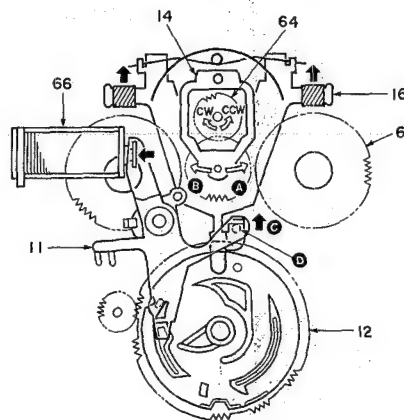

Fig. 8 (Rear side view)
3. STOP to FF/REW Operation (See Fig. 8)
- 3-1. By a signal from the microprocessor, the SOLENOID (66) turns ON. At the same time, the REEL MOTOR (64) starts rotating in the correct direction. (FF: \Rightarrow CW, REW: \Rightarrow CCW)
- 3-2. The PLAY ARM (11) swings in the direction of the arrow **C**, and the BRAKE ASS'Y (16) is raised up by the pin **D**.
- 3-3. According to the rotating direction of the REEL MOTOR, the IDLER ASS'Y (14) is swung in the appropriate direction. (FF mode: \Rightarrow **B**, REW mode: \Rightarrow **A**)
- 3-4. When the gear of the IDLER ASS'Y engages with the gear of the REEL ASS'Y (6), the deck enters FF/REW operation mode.